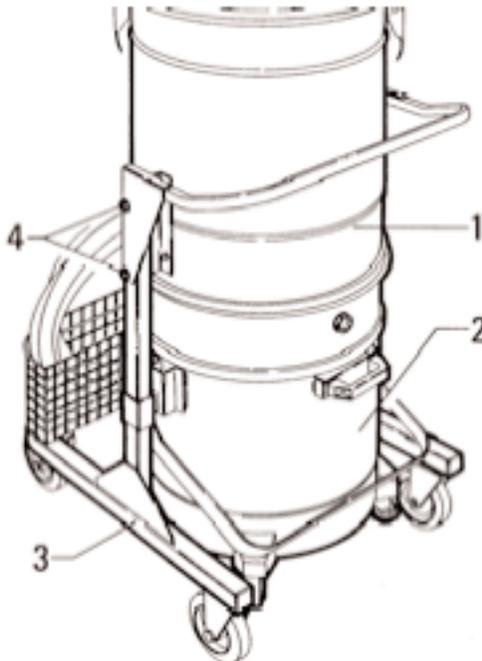

Fig. 7.3.8
7.3.5 Checking the lower seal of the filter chamber (fig. 7.3.8)